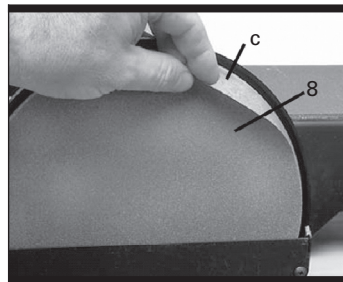

Fig 4
3. Assembling sanding disc to disc plate (See Fig 4)